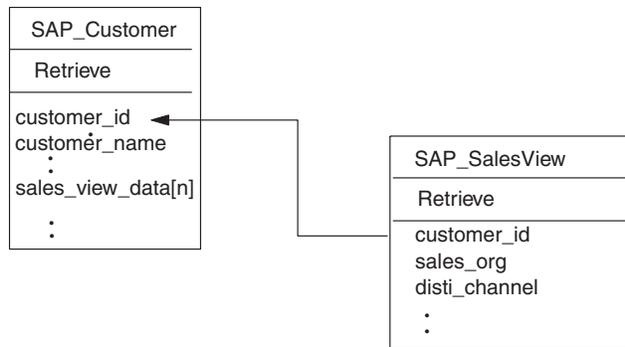

Figure 34. Example customer and sales view relationship
- In a multiple-cardinality relationship, the foreign key is determined by the primary key in the child referencing the **primary key** attribute in the parent. Each child has at least one simple attribute that contains the parent’s primary key as a foreign key. The child has as many foreign-key attributes as the parent has primary-key attributes. Figure 34 on page 227 provides an example.
Figure 34 on page 227 provides an example of a different WebSphere business object developed to process customer objects in SAP. This example SAP_Customer has a multiple-cardinality relationship to the example sales view object that it contains (the sales_view_data[n] attribute has cardinality n). The primary key attribute (customer_id) in the child business object references the primary key (customer_id) in the parent business object.